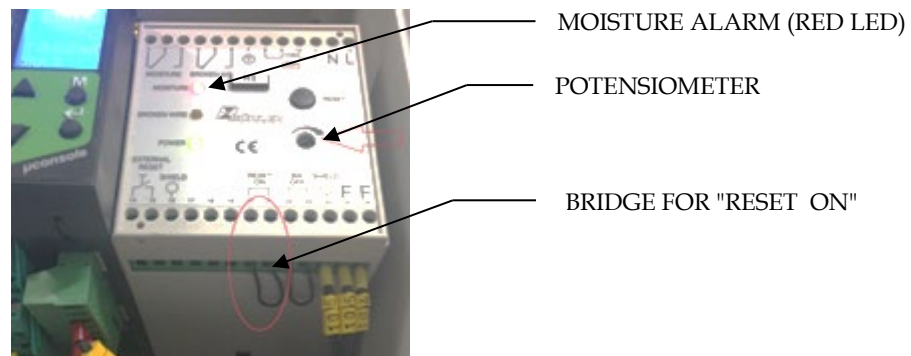

Figure 13 Moisture sensor controller
- 3) Make sure bridge for "RESET ON" is removed. Refer to Figure 13.
- 4) Adjust potentiometer clockwise until moisture alarm is activated (red LED). Refer to Figure 13.
- 5) To adjust the moisture sensor against ambient air, reset the alarm and activate the set point by adjusting the potentiometer  $\frac{1}{4}$  turn counter clockwise. Refer to Figure 13. (The red LED is turned off.)